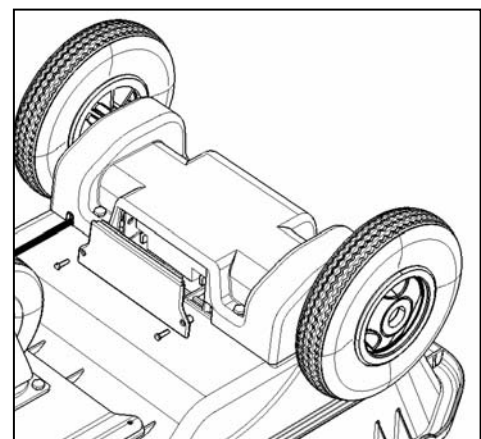

Figure 10. Replacing the battery.
- Align the battery door with the square block (on the inside of the battery door) towards the battery and face the screw holes down. Slightly angle the tab on the battery door on the drive train's lip (in the battery opening) and hook it on (**Figure 10**).